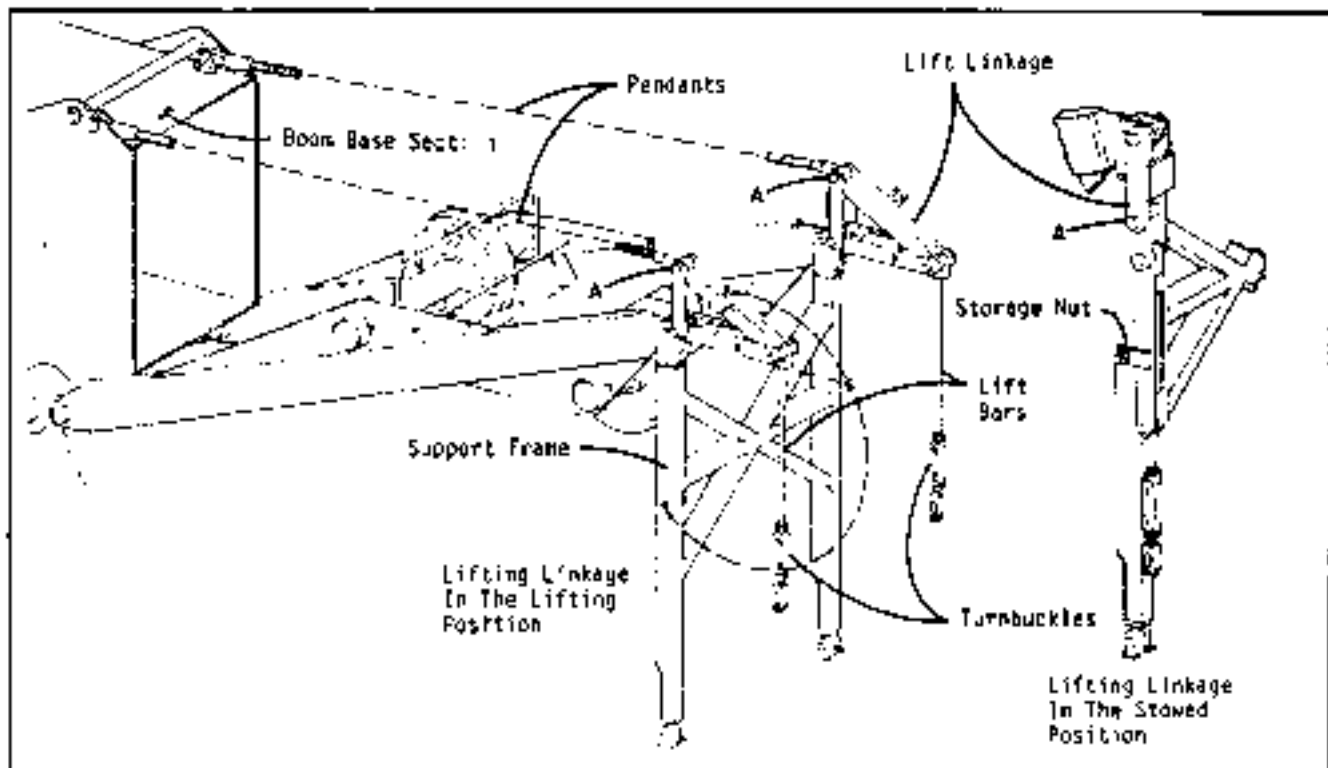
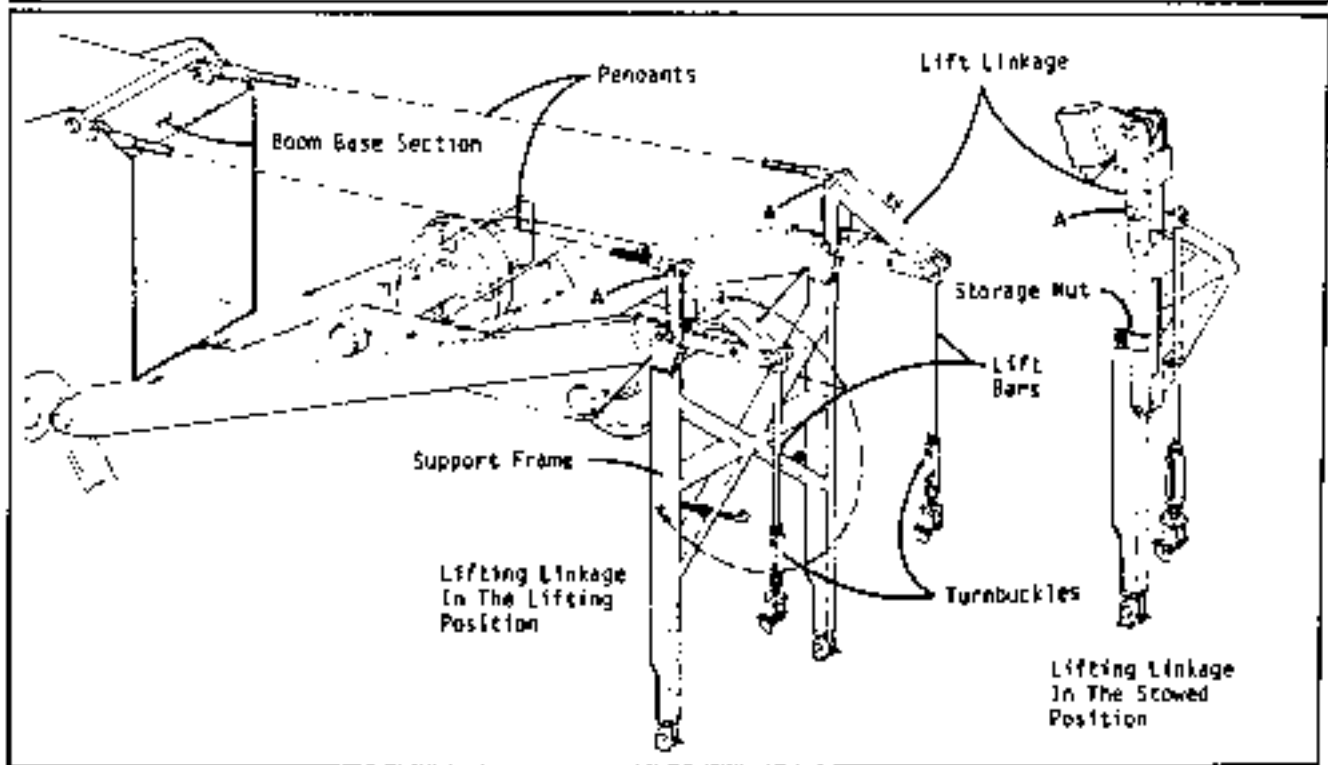

Fig. 1-31 Counterweight Removal Linkage (Cast Counterweight)
Fig. 1-32 Counterweight Removal Linkage (Fabricated Counterweight)
The machine will be equipped with either a cast or fabricated counterweight. Refer to Figs. 1-31 and 1-32 for differences in the lift linkages. The following procedure will cover both counterweights.
- Raise the boom to approximately 6 degrees. Loosen storage nuts securing the lift linkage to the support frame. Remove pins "A" and erect the linkage into the lifting position as shown in Figs. 1-31 or 1-32.
- (c) Lower the boom to approximately 8 degrees. Erect the lift linkage into the lifting position as shown in Fig. 1-31 or 1-32.
- (h) Boom up until the pendants are slack. Return the lift linkage to the stowed position as shown in Fig. 1-31 or Fig. 1-32.